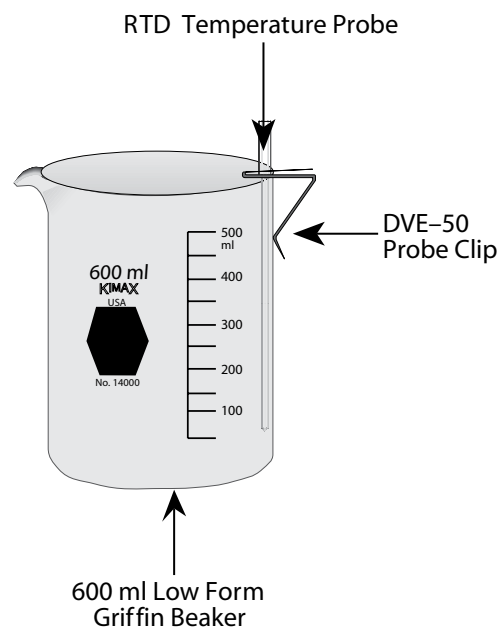

Figure J3
- ✓ Scroll to YES and press the ENTER/AUTORANGE key. Figure J3 appears.